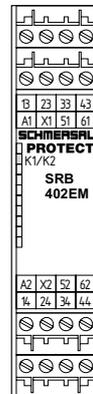

Fig. 1
**Single-channel control at terminal A1 of the SRB402EM expander module through a safety release of the basic module (see Fig. 1)**